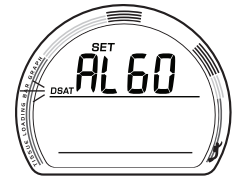

Fig. 43 - SET ALGORITHM
**SET ALGORITHM**, information is to include (Fig. 43):